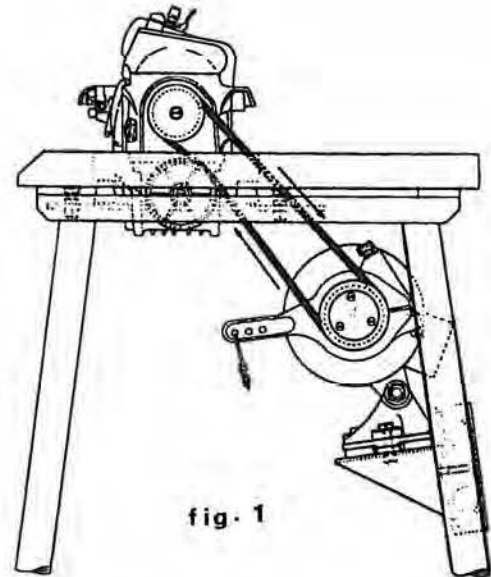

fig. 1
1. See that machine cradle is square to table top (fig. 1).
1. Line up driving belt square to machine and motor pulleys (fig. 1).